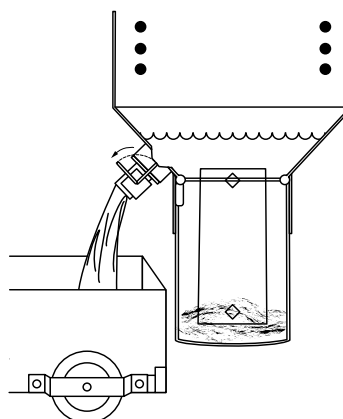

FIGURE 21
3. **DANGER:** Drain hot cooking oil into only metal containers. Place container or shortening tender under drain valve and open valve by flipping handle down. Allow cooking oil to cool before further handling (Figure 21).